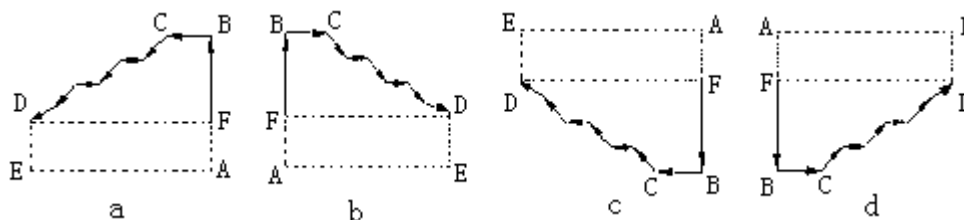

Fig. 4-38
- 13) There are four shaper in G71: Fig. 4-38, A is G71 starting point, B is the finishing starting point, D